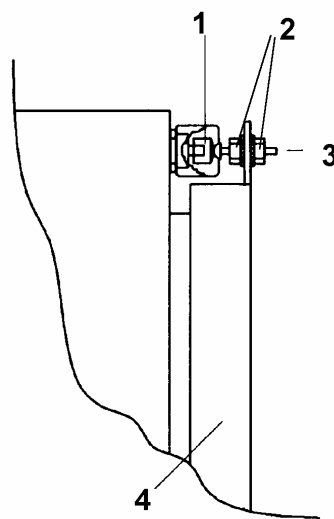

Figure 3 Door Safety Interlocks.
<p>(4) Test without blast media (for transport damages).</p>	<ul style="list-style-type: none"> – Close the doors. – Press the green switch on the black box. The light must switch on and the motor start. – Check if motor rotates in direction of the arrow. If not, reverse polarity of the electrical connection by a qualified electrician. – When the light and the motor are switched on (green button), the cleaning pulse for the dust collector cartridge can be heard in regular intervals (of 40s). – Pick up nozzle (gloves) and depress the foot pedal. The blast process must start (air comes out the nozzle). – While the foot pedal is depressed, a second person opens first the right and then the left door. At the same time the blast process should automatically be interrupted (see door interlock adjustment in figure 3). – The blast process has to be interrupted by pushing the emergency stop button. – If no troubles occur, the cabinet can be tested with blast media. Otherwise go to section 6 for trouble-shooting.